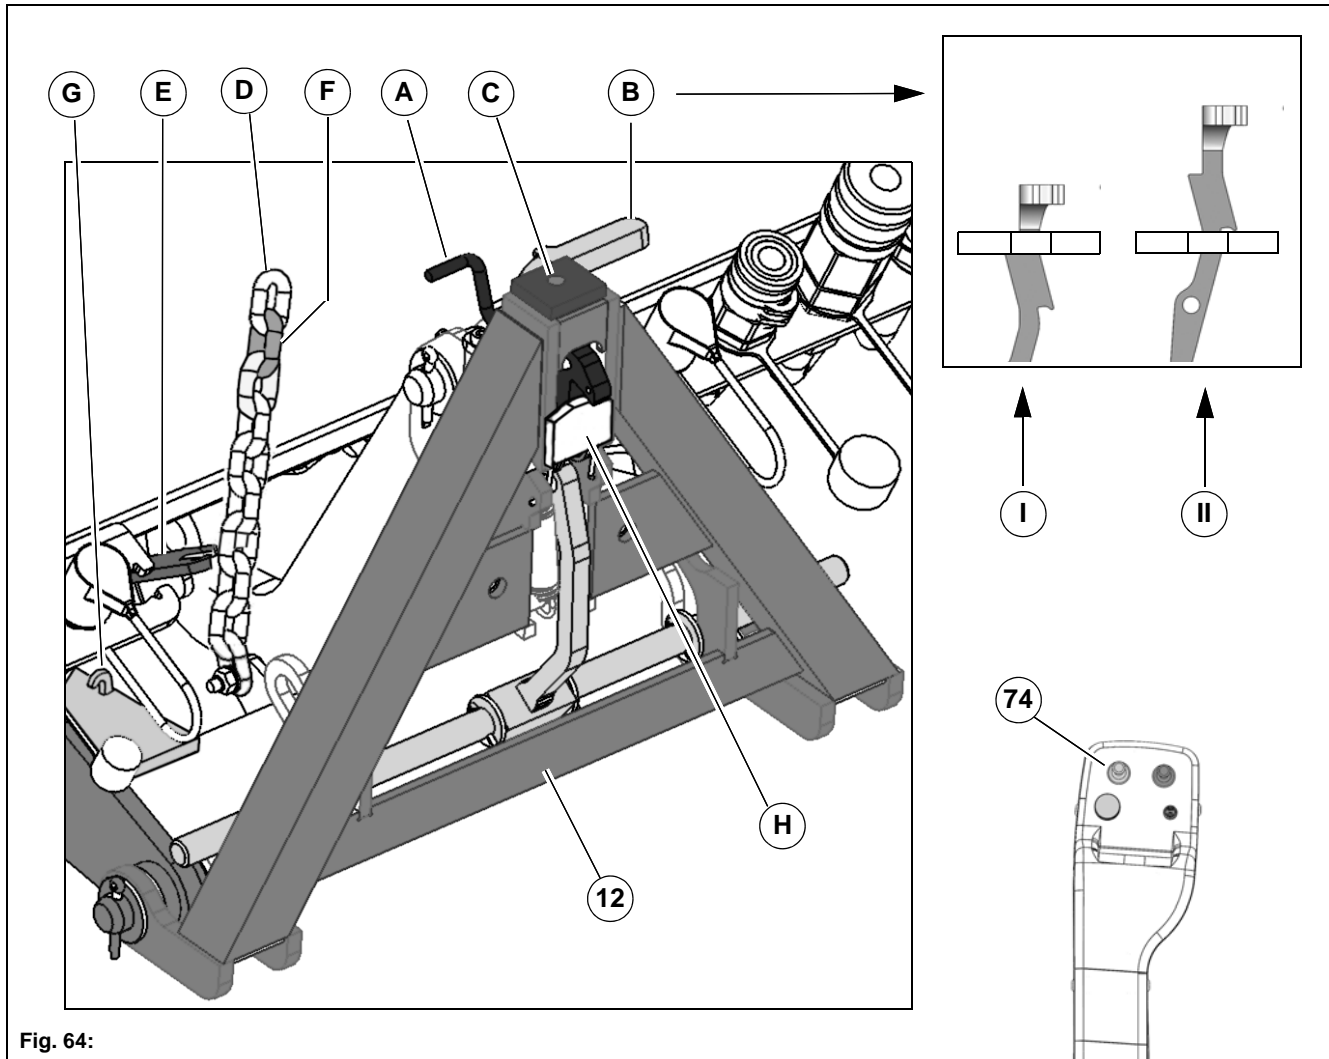

Fig. 64:
1. Bring the locking hook **Fig. 64-A** into the front position and the lever **Fig. 64-B** into the lower position **(I)**.
- For vacuum sweeping, hook the chain **Fig. 64-D** onto the holder **Fig. 64-E**. Observe the hooking point **Fig. 64-F**!
- For attachments with floating position, the chain must be hooked onto the hook **Fig. 64-G**! (parking position)!
3. Check the locking plate **Fig. 64-H** on the attachment. If necessary, loosen the screws and shift the locking plate.